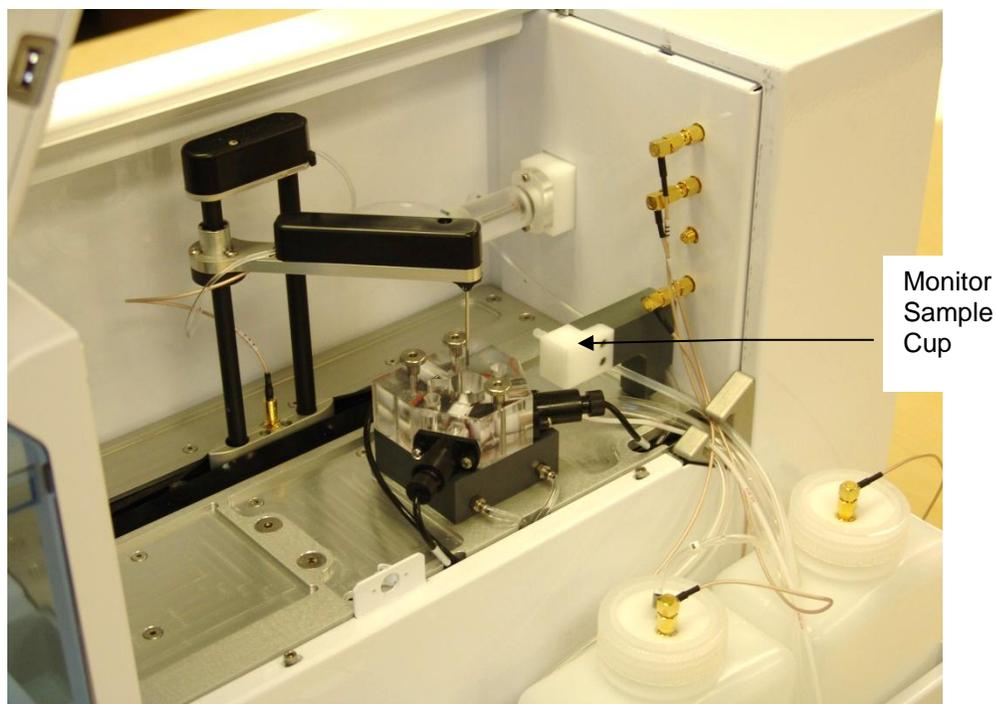

Figure 6-4
6. Using a 9/64" Allen hex wrench and the long hex screw provided with the 2960, install the Monitor Sample Cup on the 2900 Series deck (see Figure 6-4 below).